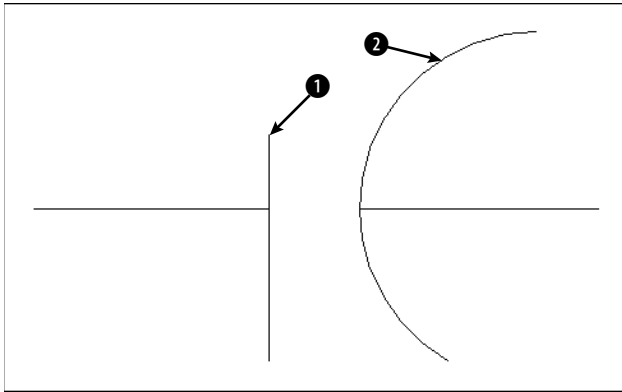

**Figure 10-22:** A poorly drawn capacitor symbol.
2. Save the file as `ab10-07.dwg` in your AutoCAD Bible folder. It is a capacitor symbol from an electrical schematic, as shown in Figure 10-22.
Select an object or [DElta/Percent/Total/DYnamic]: *Pick the line at ① in Figure 10-22.*
Select an object to change or [Undo]: *Pick the line at ① in Figure 10-22.*
Select an object or [DElta/Percent/Total/DYnamic]: *Pick the arc at ② in Figure 10-22.*
Select an object to change or [Undo]: *Pick the arc at ② in Figure 10-22.*